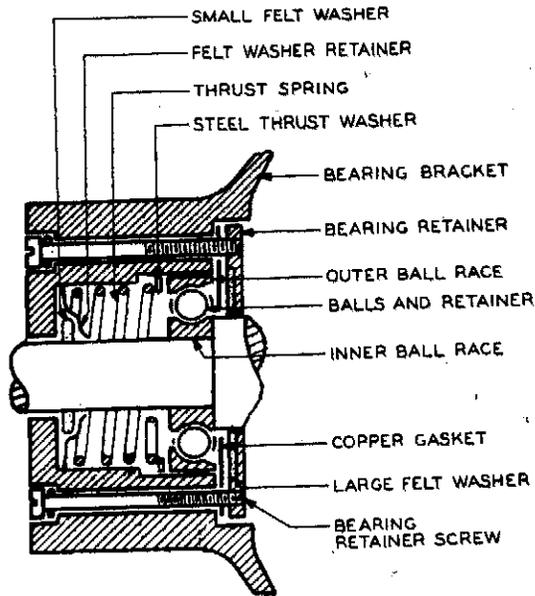

Fig. 2A - Separable Bearings
1.03 Older machines had separable bearings which were held in place by four screws as shown in Fig. 2A. Later designs have inseparable bearings as shown in Fig. 2B or 3.